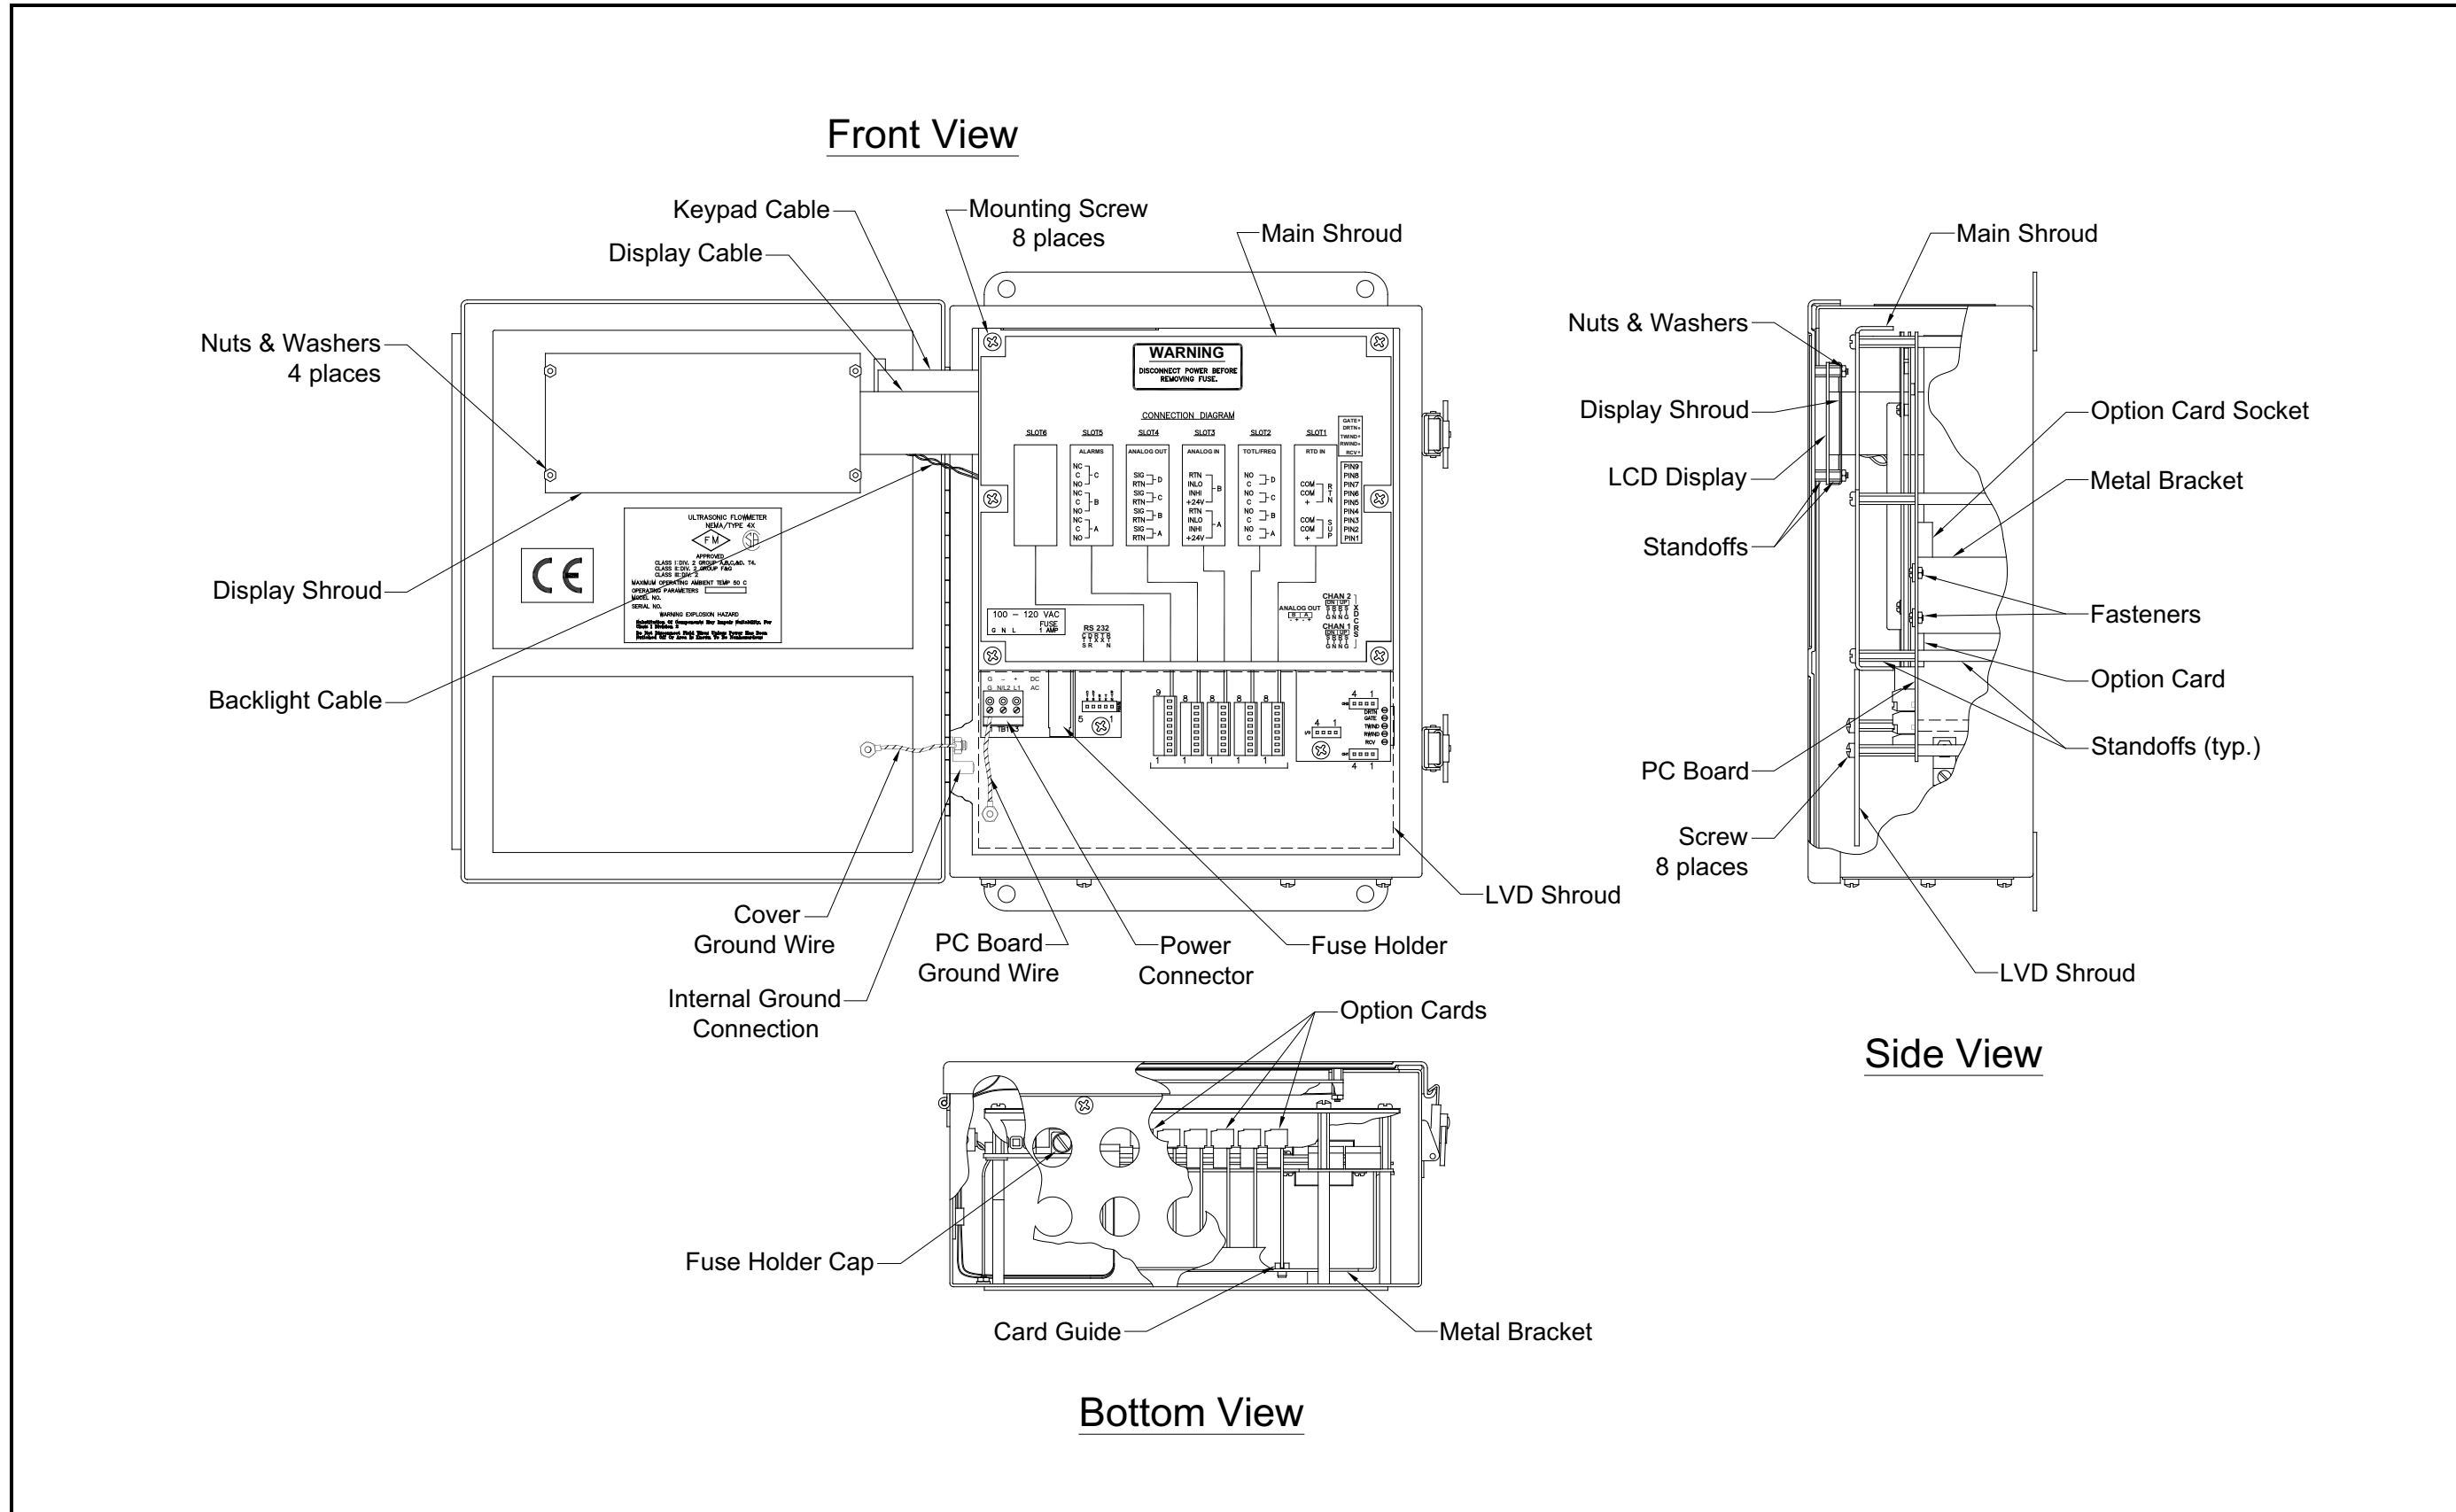
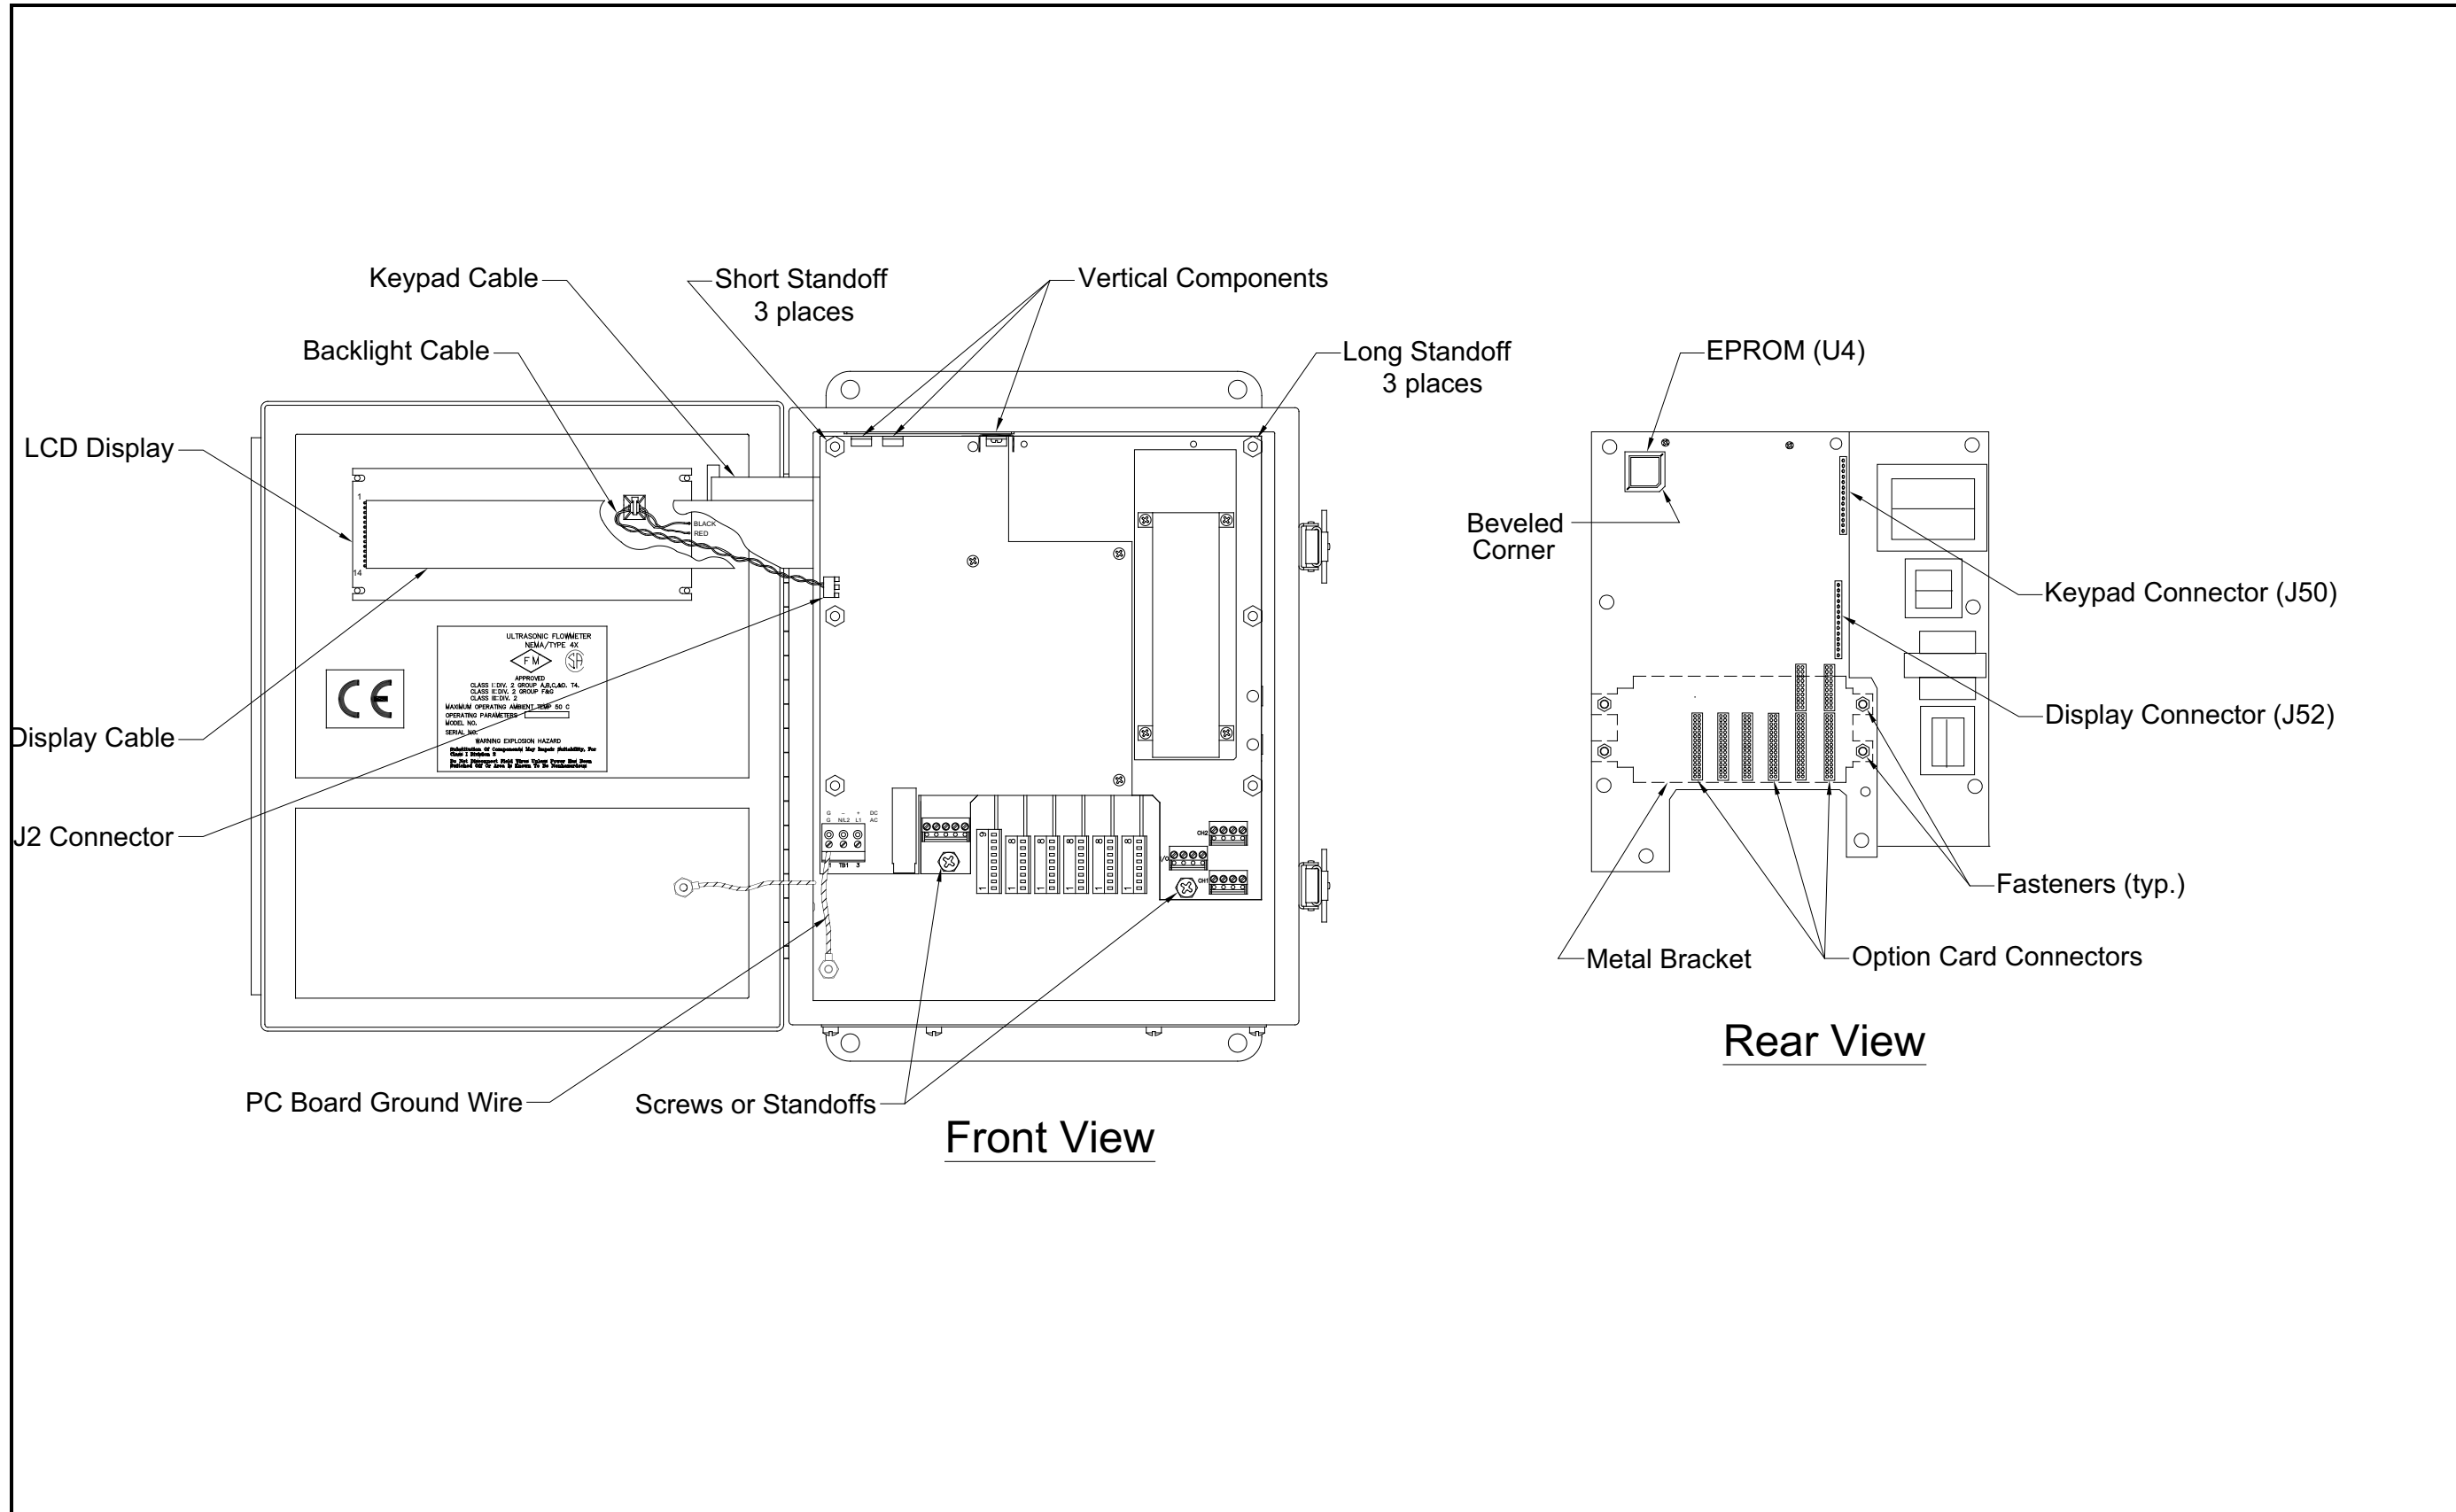

Figure 8: Standard Model GS868 - Electronics Console Assembly
Figure 9: Standard Model GS868 – Printed Circuit Board Assembly
All of the remaining procedures require removal of the printed circuit board. To accomplish this task, refer to Figure 8 on page 37 and Figure 9 on page 38 while completing the following steps:
CAUTION! Be very careful not to damage the vertical components along the top edge of the printed circuit board (see Figure 9 on page 38). Severe or repeated bending of these components will break their leads.
The Model GS868's *User Program* is stored on an erasable programmable read only memory (EPROM) chip. The EPROM, which is designated as component **U4**, is located in the top left corner of the rear of the printed circuit board. See Figure 9 on page 38 for a rear view of the printed circuit board.
To install an option card, refer to Figure 9 on page 38 and complete the following steps:
- Place the metal bracket over the option cards, making sure that all option cards are aligned with the plastic card guides in the bracket. Secure the metal bracket to the printed circuit board with the plastic snap rivets provided. Refer to the installed assembly in Figure 8 on page 37.
The Model GS868's measurements are displayed on a two-pane LCD graphic display panel. The LCD display normally provides years of dependable service, but it is easily field-replaceable when necessary. To replace the LCD display, see Figure 8 on page 37 for the component locations, and complete the following steps:
4. Place the new LCD display assembly over the mounting studs on the console cover and fasten it in place with the four standoffs. Make sure that the LCD display assembly is oriented as shown in Figure 9 on page 38.
Whether the printed circuit board was removed for replacement or for one of the other procedures discussed in this chapter, reinstallation of the printed circuit board is the final step in the process. Refer to Figure 8 on page 37 and complete the following steps:
1. Position the printed circuit board within the electronics console with the top edge tilted forward. Insert the display ribbon cable and keypad ribbon cable connectors into their sockets on the rear of the printed circuit board. See Figure 8 on page 37 and Figure 9 on page 38 to identify the cables and sockets. Note that the keypad cable connects to the upper socket and the display cable connects to the lower socket.
CAUTION! During this procedure, be very careful not to damage the upright components along the top edge of the printed circuit board (see Figure 9 on page 38). Severe or repeated bending of these components will break their leads.